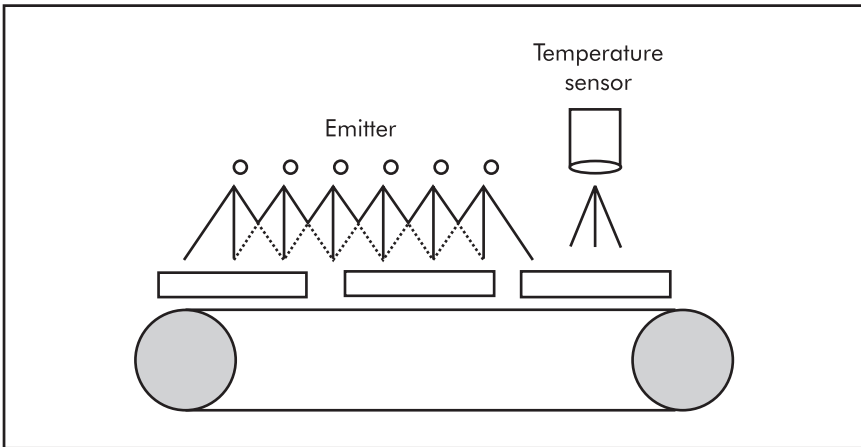

Figure 5-2. Typical infrared system. (Courtesy Nordson Corporation)
Shortwave, high-intensity infrared heating uses electrical energy to produce a direct, radiant method of heating. Infrared radiation (IR) is transmitted directly from an emitter to the product via electromagnetic waves traveling at the speed of light (186,000 mi/s) (299,274 km/s). Unlike convection heating, high-intensity infrared requires no medium for heat transfer. Radiation is a "line of sight" method. It only cures what it "sees." Heated energy is transferred quickly, cleanly, and efficiently, typically with tungsten quartz infrared lamps. Shortwave heaters also penetrate the substrate. High-intensity infrared can have fast temperature-time response. Curing ovens using this method of radiation heating are compact in size and can be zoned to match exact product configuration and size. Figure 5-2 shows a typical infrared system.